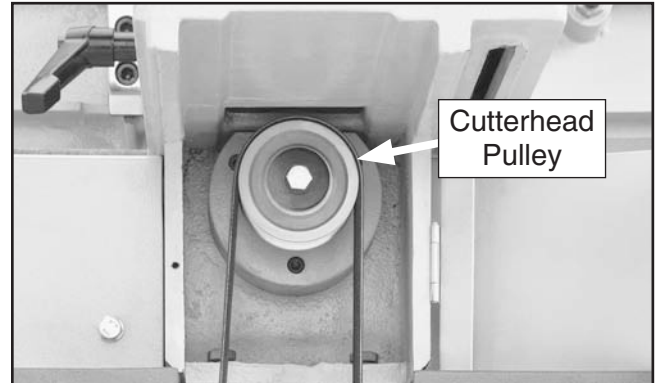

Figure 11. Cutterhead pulley behind hinged cover.
3. Open the hinged pulley cover at the back of the machine to gain access to the cutterhead pulley (see **Figure 11**).